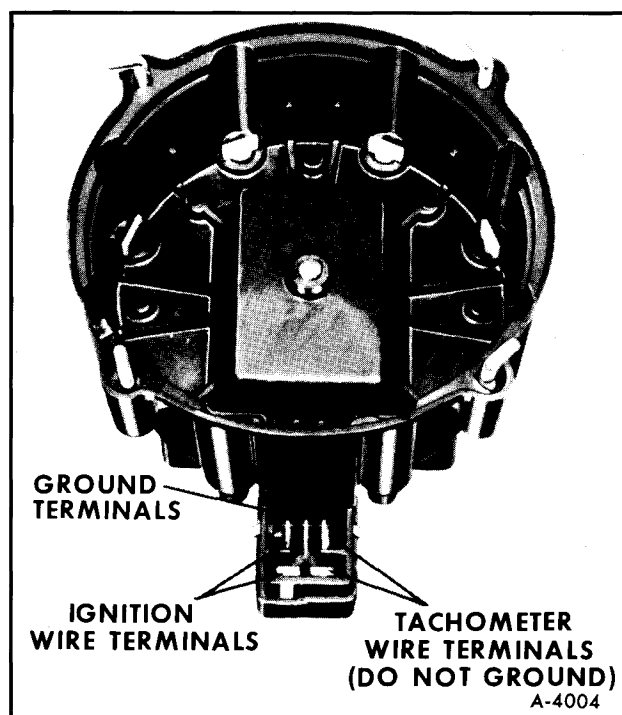

Figure 52—Terminals on Distributor Cap
When making compression checks on engines equipped with HEI, disconnect the ignition switch connector at the battery terminal of the distributor (figure 52).
The tachometer terminal is next to the ignition switch connector on the distributor cap (figure 52). Most tachometers can be used, however, be sure the equipment is compatible with the HEI system. The tachometers without a relay cannot be used. If there is any doubt as to whether you have the right tachometer, a check can be made as follows:
3. Connect voltmeter or test light from "BAT" terminal lead on distributor to ground (figure 52).